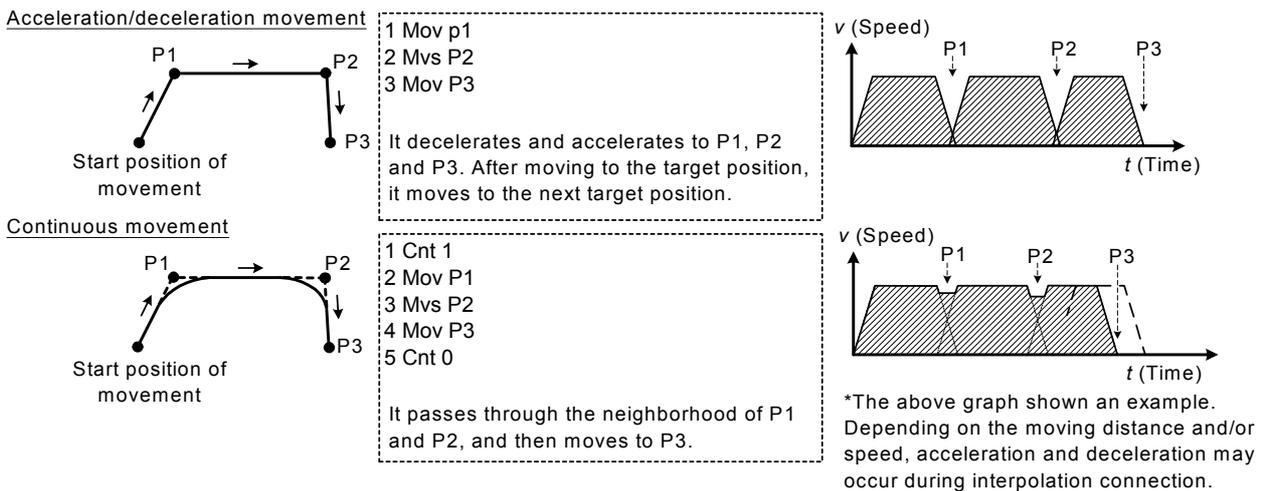

Fig.4-19:Acceleration/deceleration movement and continuous movement
- (1) The interpolation (4 step to 8 step of the example) surrounded by Cnt 1 - Cnt 0 is set as the target of continuous action.
- (2) The system default value is Cnt 0 (Acceleration/deceleration movement).
- (3) If values 1 and 2 are omitted, the connection with the next path segment is started from the time the deceleration is started.
- (4) As shown in Fig. 4-19, in the acceleration and deceleration operating mode, the speed is reduced in front of the target position. After moving to the target position, the speed for moving to the next target position starts to be accelerated. On the other hand, in the continuous operating mode, the speed is reduced in front of the target position, but it does not stop completely. The speed for moving to the next target position starts to be accelerated at that point. Therefore, it does not pass through each target position, but it passes through the neighborhood position.